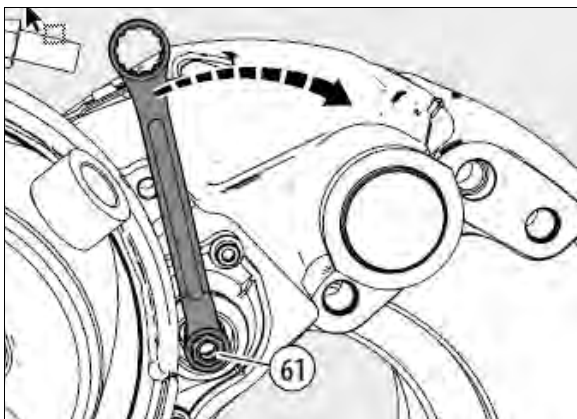

FIGURE 41: APPLY THE BRAKE 5-10 TIMES, SPANNER TURNS CLOCKWISE
15. As a visual aid, position a ring spanner or socket onto the adjuster (including Adapter (61)) as shown. Apply the brakes 5 to 10 times, the spanner or socket should turn clockwise (viewed from actuator side) in small increments if the adapter is functioning correctly (see Figure 41 and note below).